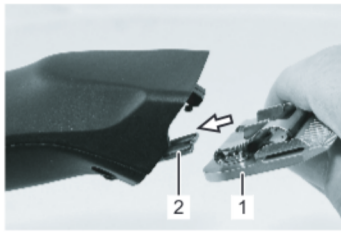

Fig. 17
6. Fit the favoured clipperhead to the blade hinge and fold it on to the switched-on clipper by light pressure. (fig. 17, 18, 19).